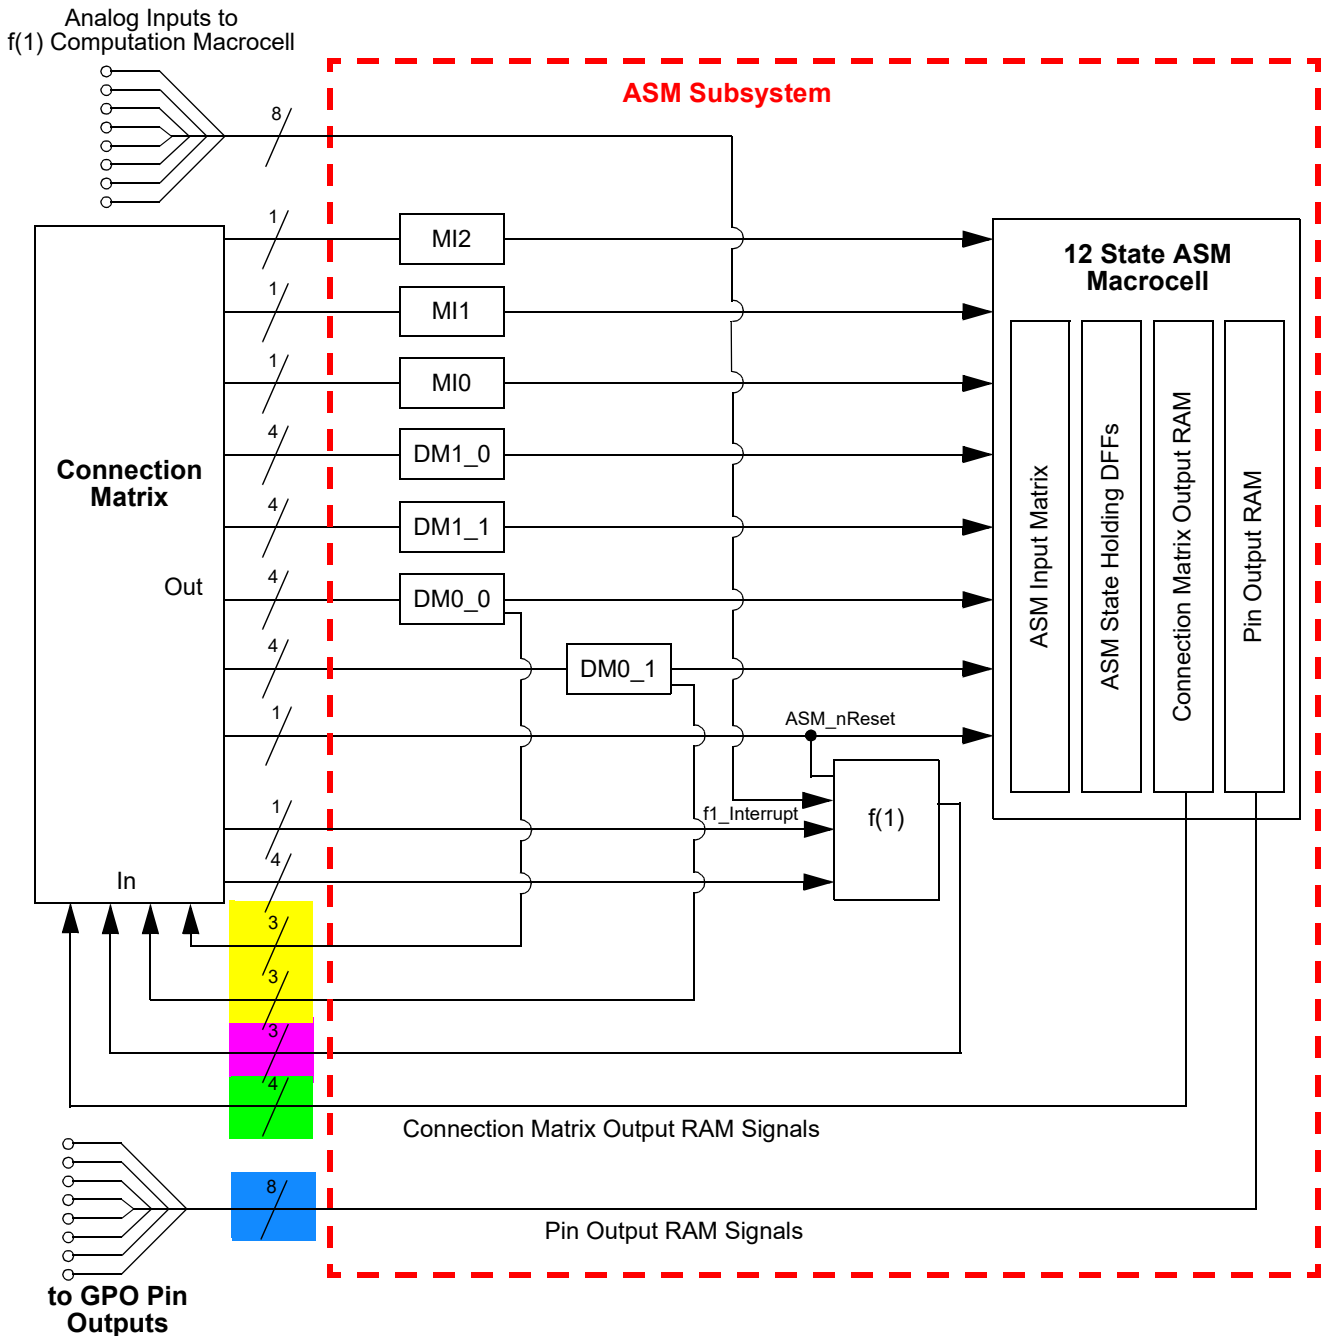

Figure 81: ASM Subsystem Input Signals
The ASM subsystem has a total of 21 output signal lines, as shown in Figure 81.
There are a total of 4 output signals from the ASM macrocell which go to the Connections Matrix inputs and from there can be routed to other internal macrocells or pins. These signals are shown in Figure 81, highlighted in green. The 4 outputs are user defined for each of the possible 12 states. The user selection for the output states is held in the Connection Matrix Output RAM.
There are a total of 8 output signals from the ASM macrocell which go directly to the 8 GPOs. These signals are shown in Figure 81, highlighted in blue. The 8 outputs are user defined for each of the possible 12 states. The user selection for the output states is held in the Pin Output RAM. Each of these GPOs has a single selection bit which defines the GPO input source as either the ASM Output RAM signal or the Connection Matrix signal.
Two of the Dynamic Memory macrocells, DM0\_0 and DM0\_1, can be used as either a resource for generating input signals for driving state transitions in the ASM macrocell, or to generate signals for use in other parts of the user design. When used to generate signals for purposes other than ASM state transitions, each of these macrocells has three output signals that go to the Connection Matrix, and from there can be routed to other internal macrocells or pins. Each of these macrocells has a total of 3 output signals of this type. These signals are shown in Figure 81, highlighted in yellow.
The f(1) Computation Macrocell has 3 output signals that go to the Connection Matrix, and from there can be routed to other internal macrocells or pins. These signals are shown in Figure 81, highlighted in pink.